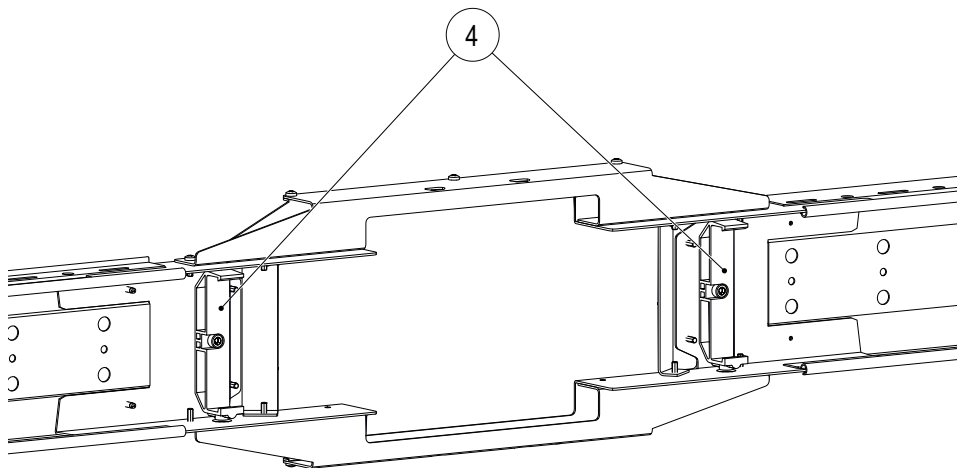
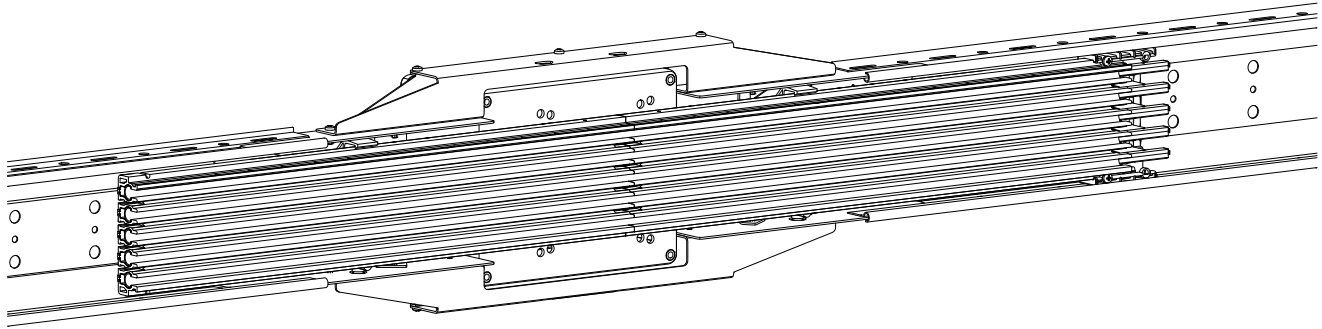

Fig. 64: Anchor points (4) are installed
Fig. 65: Line feed with terminal box is installed on fastening frame
1. If the anchor points (4) are not yet installed on the fastening frame (3), they must first be installed using the screw connections (A, B and C) (see Fig. 64 and Fig. 65).
- The anchor points are installed on the right and left of the fastening frame (see Fig. 64 and Fig. 65)
- The anchor points are installed on the fastening frame of the line feed (see Fig. 64) and the conductor rails are completely hung.